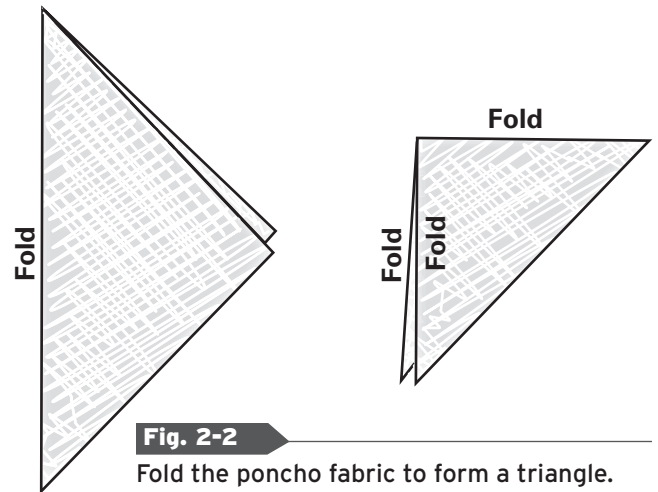

Fig. 2-2
2. With right sides facing, fold the fabric square in half diagonally to form a triangle. Then fold it in half diagonally again. (Fig. 2-2)